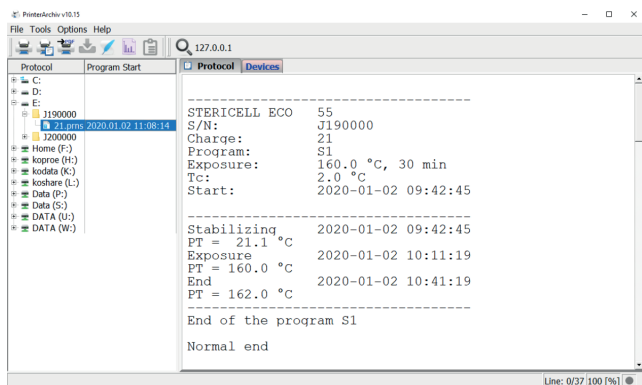

Fig. 46
- The exported file (*.prns) can be opened using the PRINTER ARCHIVE application, version 10.11 and later (Fig. 46).